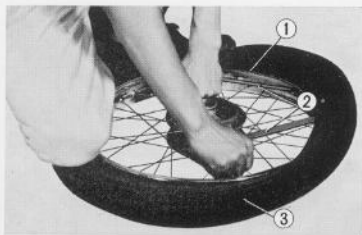

Fig. 4.100 Assembling tire
2. Assemble the tube and tire ③ to the rim ① by inflating the tube slightly so that it holds the shape, place inside the tire and then install the tire on the rim. (Fig. 4.100)